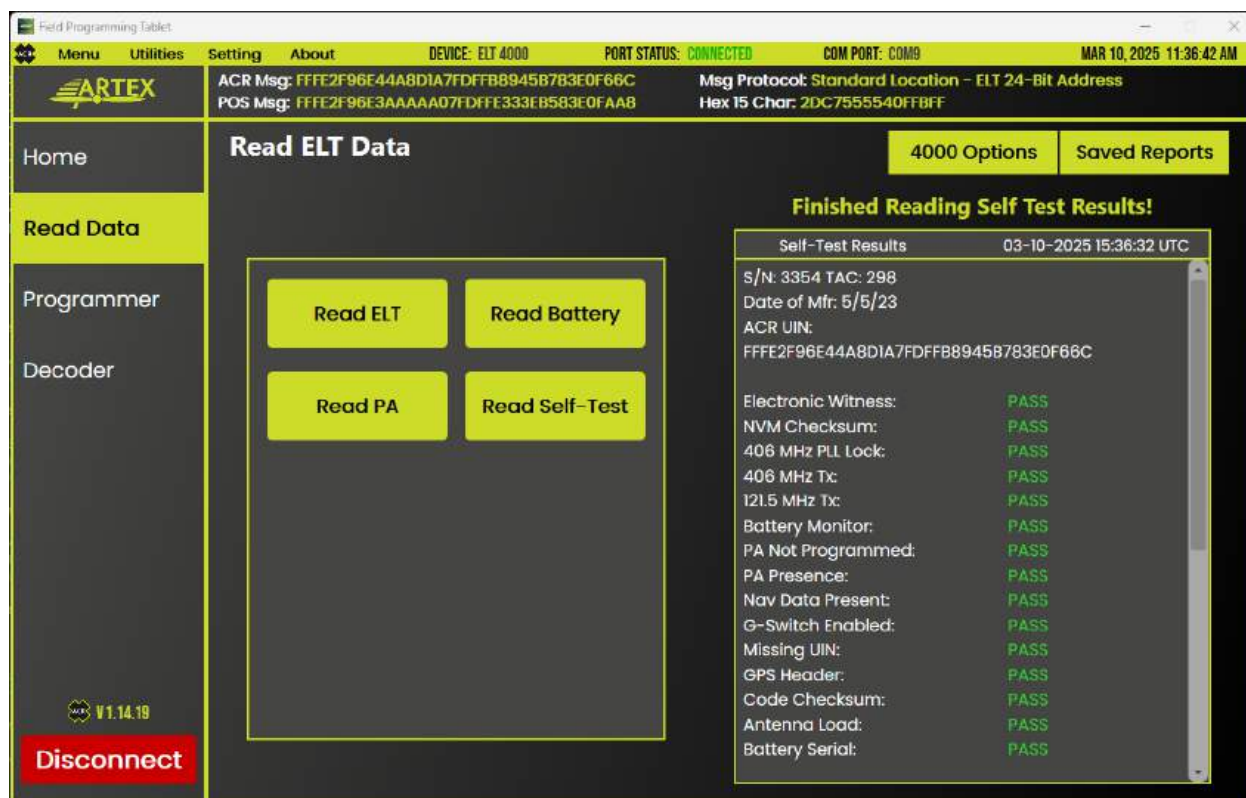

Figure 13 - FPT Read ELT Data Screen (ELT 4000 Series)
1. The ELT 3000, 4000 and 4000M devices have two additional buttons for reading the data from the Programming Adapter (PA) and reading the Self-Test results data (Figure 13).
4. An additional page (4000 Options) is available for the ELT 3000 & 4000 series devices. The ELT 4000 Options tab can be selected at the top right of the screen (Figure 13) to display a new page. Note that the name of the options tab will change based on the connected ELT either 3000 or 4000.